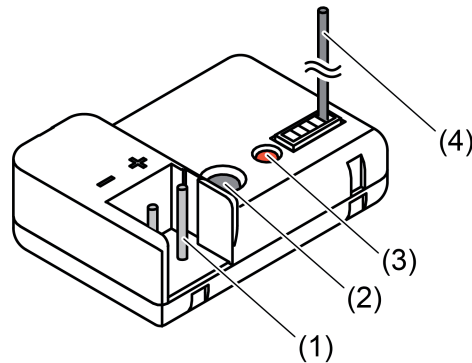

Figure 1: Device components media coupler
- Press the programming button (2)(figure 1).